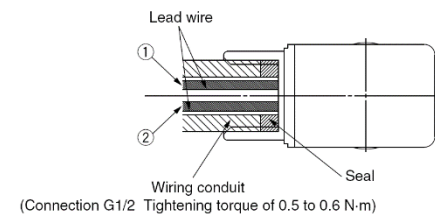

Figure 6.
- Tighten conduit to torque shown in Figure 6.